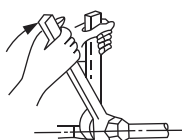

Fig.5-4
- Tighten it with a spanner and torque wrench (Refer to Fig.5-4)
- When connecting the refrigerant pipes, always use two wrenches/spanners to tighten or loosen the nuts ! (Refer to Fig.5-4) Otherwise, it will cause damage of piping connections .